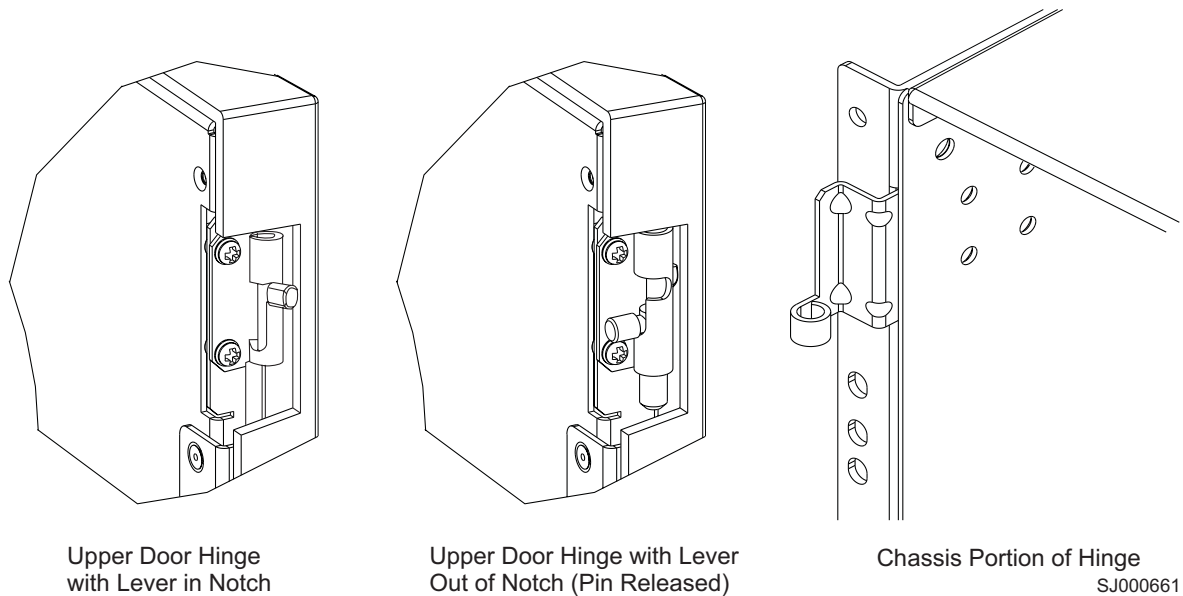

Figure 31. Removing the chassis door
21. Reinstall the door after you put the chassis in place. See Figure 31 on page 53.